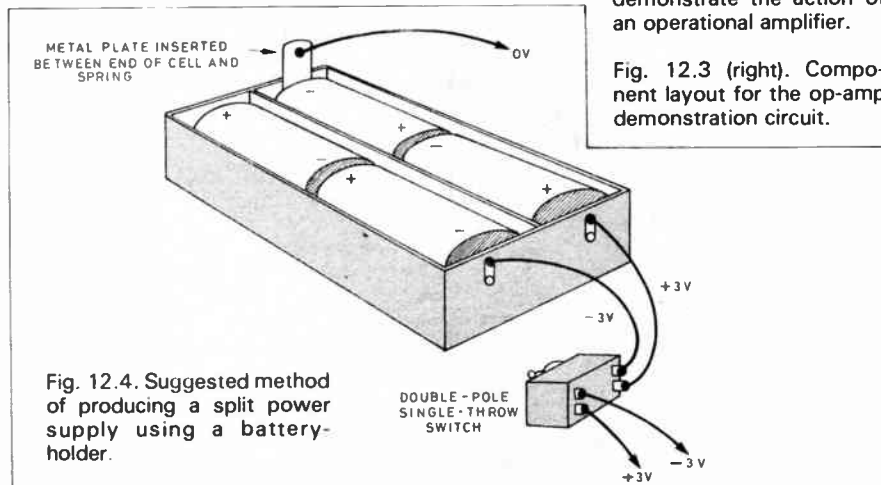

Fig. 12.4. Suggested method of producing a split power supply using a battery holder.
The recommended voltage range is 5V to 8V and the i.c. will give its best performance within that range. However, 3V is easier to obtain, as only a standard battery-holder is required, and this is adequate for the purposes of this article, see Fig. 12.4.
Split power supply, four 1.5V cells and battery holder (see Fig. 12.4); breadboard (e.g. Verobloc); 8-pin d.i.l. i.c. socket and connecting wire.
- Split power supply; four 1.5V cells and battery holder (See Fig. 12.4); breadboard; 8-pin d.i.l. i.c. socket; touch-plate—see text; connecting wire.